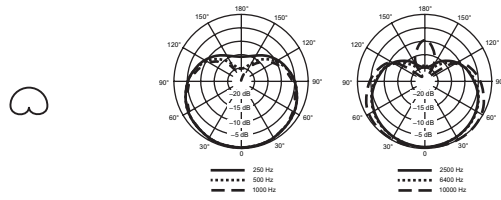
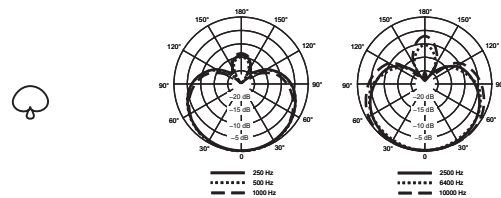

FIGURE 3. TYPICAL CARDIOID POLAR PATTERN
FIGURE 5. TYPICAL SUPERCARDIOID POLAR PATTERN
**Cardioid.** Is most sensitive to sounds directly in front of the microphone and is least sensitive to those in back. Cardioid is the most commonly used pattern in live sound applications. Its slightly wider pick-up pattern is more forgiving at picking up off-axis sound. See Figure 3.
**Supercardioid.** The narrower pattern provides greater rejection of off-axis sound and maximum gain before feedback. The supercardioid pattern is ideal for use in loud environments or applications in which sound sources are very close to each other. See Figure 5.
| Directional Polar Patterns | Cardioid (See Figure 3) | Supercardioid (See Figure 5) |